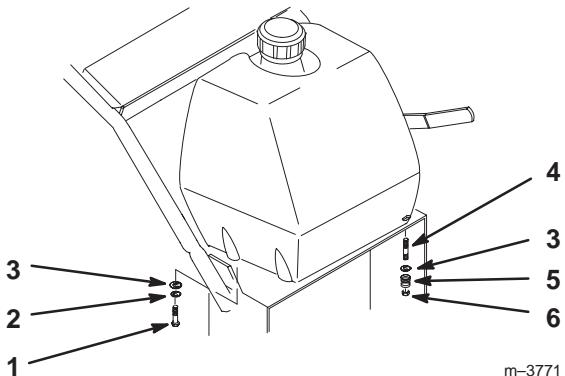

Figure 10
1. Align fuel tank to top of rear frame and secure fuel tank right side with (2) 5/16-18 x 7/8 in. (22.5 mm) bolts, (2) 5/16 lock washers and (2) 5/16 washers (Fig. 10).
3. Secure fuel tank left side to frame with (2) 5/16-18 x 7/8 in. (22.5 mm) studs, (2) 5/16 washers, (2) springs and (2) 5/16 locknuts (Fig. 10).